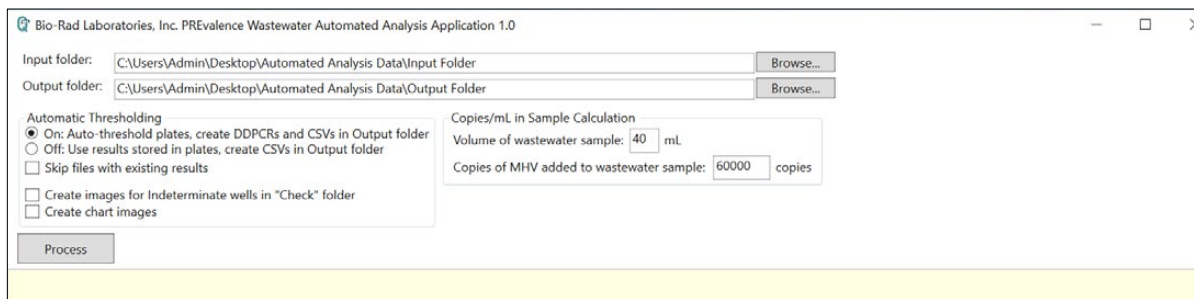

Fig. 10. Recommended configuration for the PREvalence Wastewater Automated Analysis Application.
**Note:** Valid numeric data must be input into both fields for the application to perform the Copies/mL calculation (Figure 10).